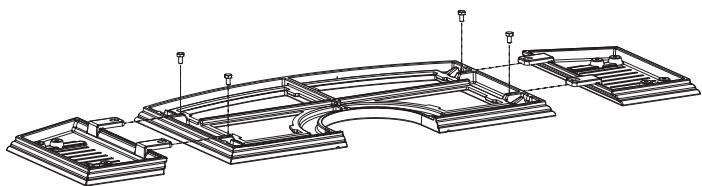

Figure 34
4. Place left and right side shelves in place shown in **Figure 34**.
**NOTE:** Due to inherent properties of the casting process, non-combustible shims may be required to level accessory side shelves to the casting top. These shims are provided in the form of washers to be used on either side of the bolts. **See Figure 34.** If accessory shelf angles downward, toward the floor, washer(s) will need to be added to the center side of the bolt. Conversely, if the accessory side shelf angles upward, toward the ceiling, washer(s) will need to be added to the outside of the top casting side of the bolt. **See Figure 37.**